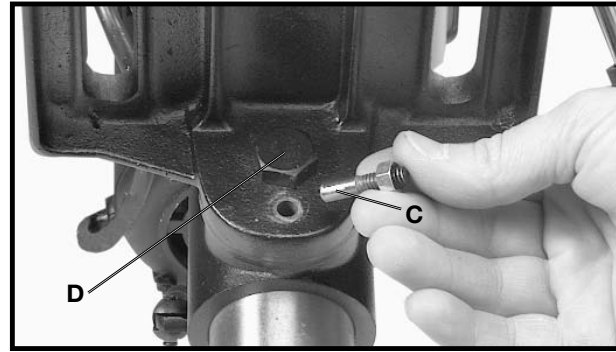

Fig. 23
4. Fig. 23, illustrates the table alignment pin (C) removed. Loosen table locking bolt (D), tilt table to the desired angle and tighten bolt (D). When returning table to the level position, replace table alignment pin (C). This will position the table surface at 90 degrees to the spindle.